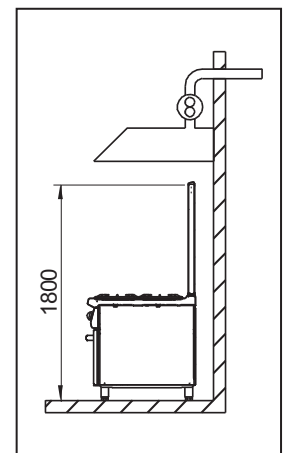

Fig. 17
- *Forced evacuation under hood (fig.17).*